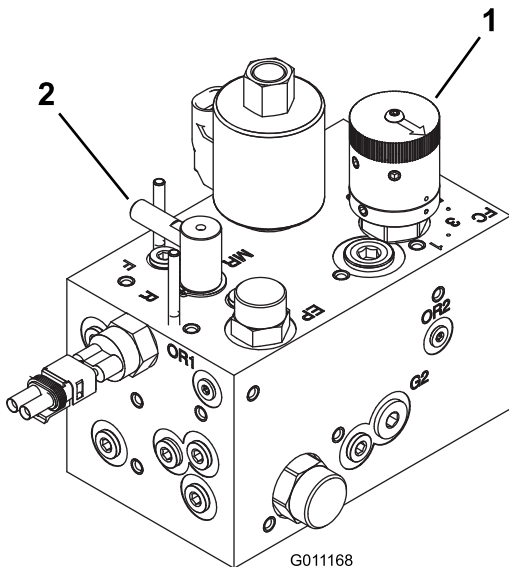

Figure 47
3. Turn the reel speed control knob (Figure 47) to the reel-speed number determined in Step 1.